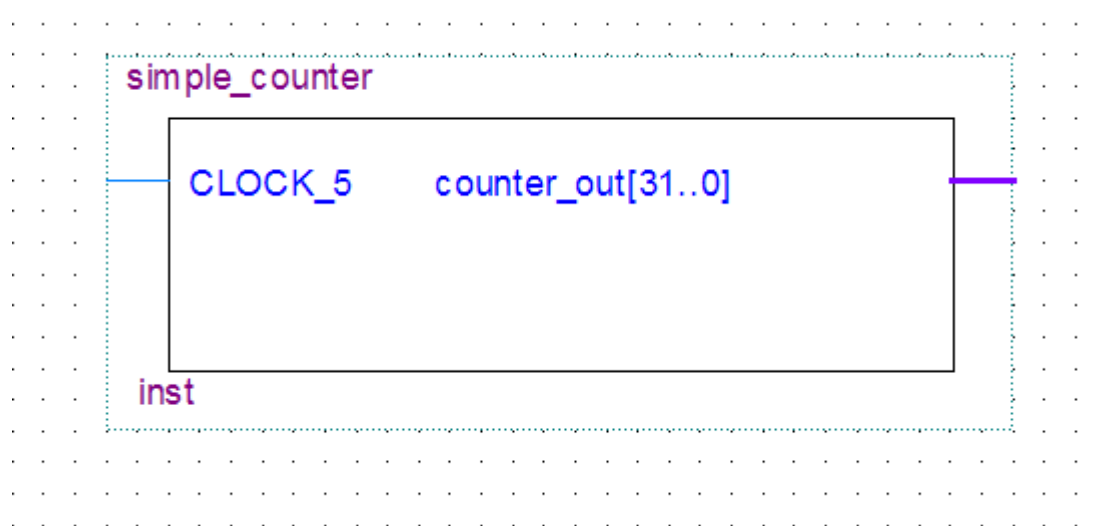

Figure 6-18 Placing the simple_counter symbol
13. Move the cursor to the BDF grid; the symbol image moves with the cursor. Click to place the simple_counter symbol onto the BDF. You can move the block after placing it by simply clicking and dragging it to where you want it and releasing the mouse button to place it. See Figure 6-18.